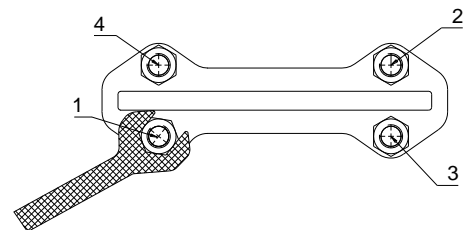

Figure 4: Tighten gland nuts crosswise
12. Place the box bottom scraper (9a) in the bottom of the gland box. Install the first braid (9) on one of the long sides of the gate (6). Use a blunt tool in plastic or wood and a hammer to push the braid into the box. Make sure that the braid ends meet properly. It is important to push the first braid evenly into the bottom of the box. The joint of the second and third braid must be placed on the opposite long side of the joint of the previous braid, not on top of each other.
13. Install the gland (8) on the stud bolts (8a).
15. Install the seats (13), see section A.
16. Put pressure on the gland (8) by tightening the nuts (8c) gradually and crosswise, see figure 4. The box packing must be equally compressed all around. Recommended torque for gland nuts, see section D.
17. The gland (8) must put a uniform pressure on the box packing (9). The gland (8) must also be in line with the gate (6) with the same distance between the gland and the gate all around. Check that there is no metal contact between the gland (8) and the gate (6).
18. Remove the round bar from the purge ports and install the plugs (55).
- i. Lift off the cylinder (18).
- j. Demount the beam (7) and tie rods (5) from the valve.
4. Loosen the nuts (8c) on the gland (8).
5. Lift of the gland (8) from the stud bolts (8a).
6. Remove the box packing braids (9) and the box bottom scraper (9a).
8. Push down the box bottom scraper (9a) into the bottom of the gland box. Install the first braid (9) on one of the long sides of the gate (6). Use a blunt tool in plastic or wood and a hammer to push the braid into the box. Make sure that the braid ends meets properly. It is important to push the first braid evenly into the bottom of the box. The joint of the second and third braid must be placed on the opposite long side of the joint of the previous braid, not on top of each other.
9. Place the gland (8) on the stud bolts (8a).
11. Put pressure on the gland (8) by tightening the nuts (8c) gradually and crosswise, see figure 4. The box packing must be equally compressed all around. Recommended torque for gland nuts, see chapter D.
12. The gland (8) must put a uniform pressure on the box packing (9). The gland (8) must also be in line with the gate (6) with the same distance between the gland and the gate all around. Check that there is no metal contact between the gland (8) and the gate (6).